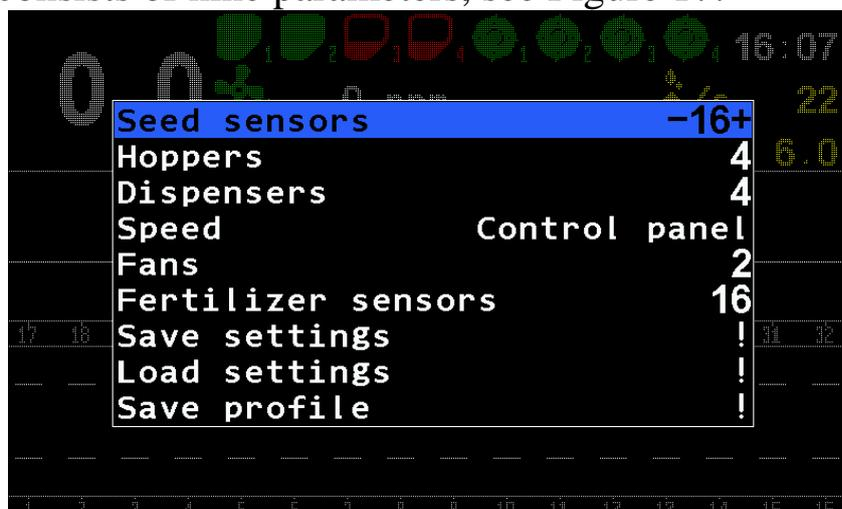

Figure 17 Profile
9.4.1.Profile – opens the submenu used for adjustment of the seeding monitoring system sensors compound and amount. Submenu consists of nine parameters, see Figure 17: